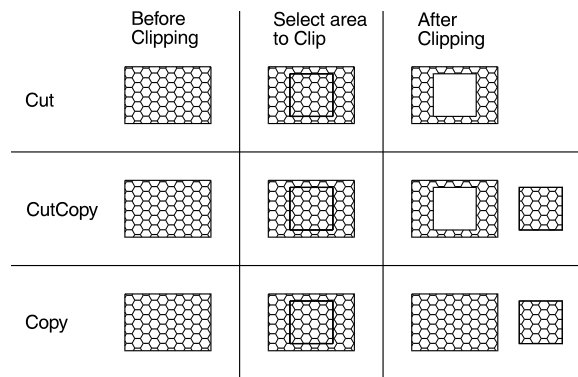

Figure 12.18: Different results from cutting, cutting and copying, and copying
6. Toggle Boundry on to leave the outline of the boundary in your drawing. (See "After Clipping" for Cut and CutCopy in Figure 12.18 for an example of a boundary outline.)